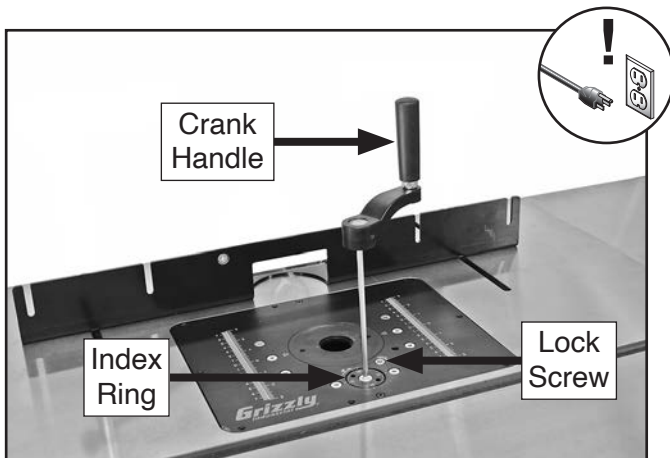
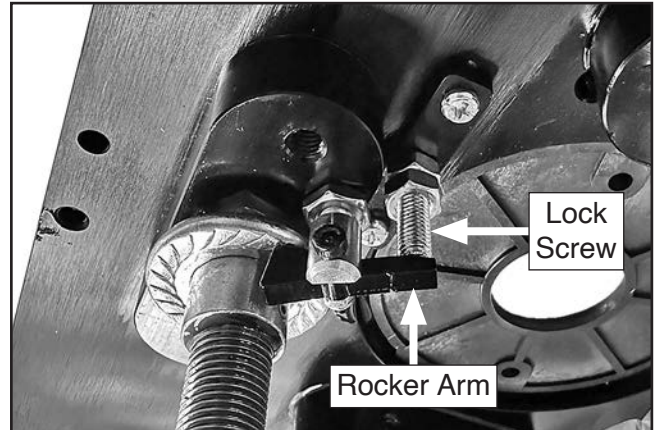

Figure 48. Example of lift crank handle installed in mounting plate.
Figure 49. Location of lock screw components.
2. Turn lock screw (see **Figure 48**) counter-clockwise one full turn to release rocker arm (see **Figure 49**) beneath mounting plate.
3. Insert crank handle (see **Figure 48**) into index ring in mounting plate.
4. Turn crank handle (see **Figure 48**) clockwise to raise router; turn crank handle counter-clockwise to lower router.
5. Secure height setting by turning lock screw clockwise until it engages rocker arm (see **Figure 49**). Ensure lock screw is snug, but do not overtighten.